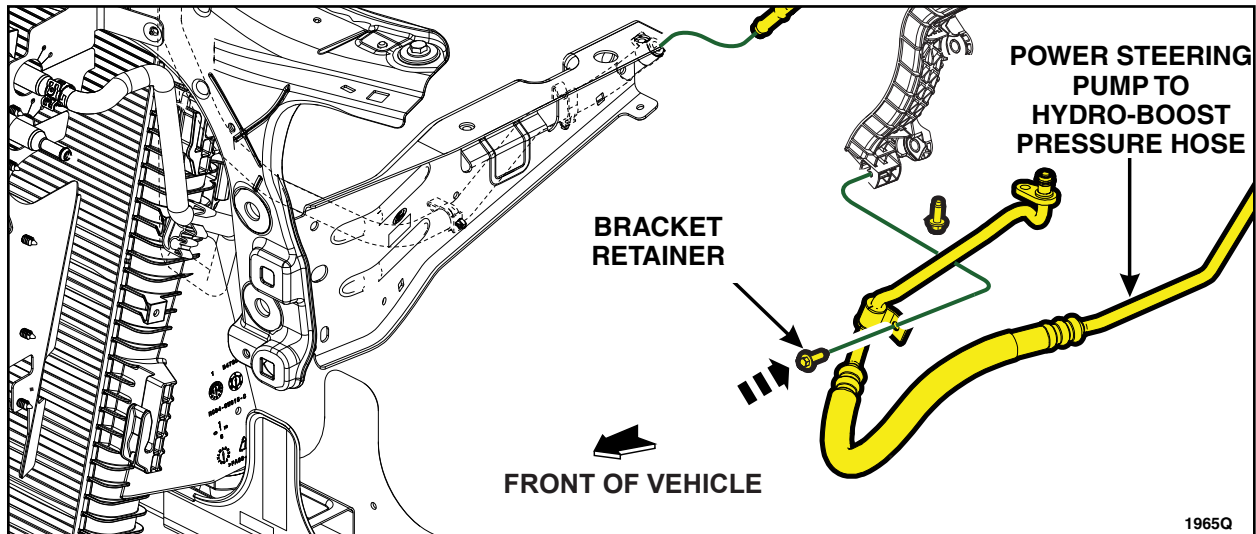

FIGURE 18
12. Install the power steering pump to Hydro-Boost pressure hose bracket retainer. See Figure 18.